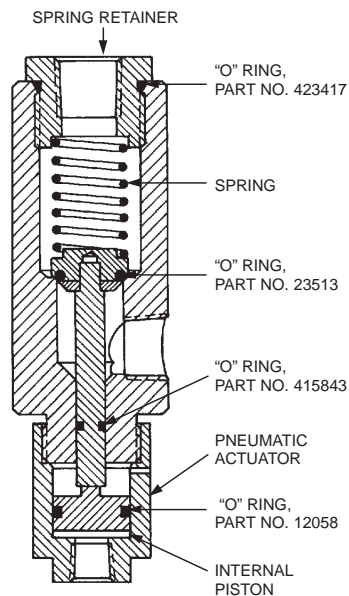

FIGURE 5
- Unscrew spring retainer from top of water valve. See Figure 5.
- Remove spring. See Figure 5.
- Unscrew pneumatic actuator from bottom of valve leaving green poppet valve and check valve attached. See Figure 5.
- Using air pressure into check valve port, pop out internal piston from pneumatic actuator. See Figure 5.
- Lubricate “O” rings on valve stem, piston, and spring retainer with a good grade of silicone grease, such as Dow Corning No. 4. Replace “O” rings if necessary. See Figure 5.